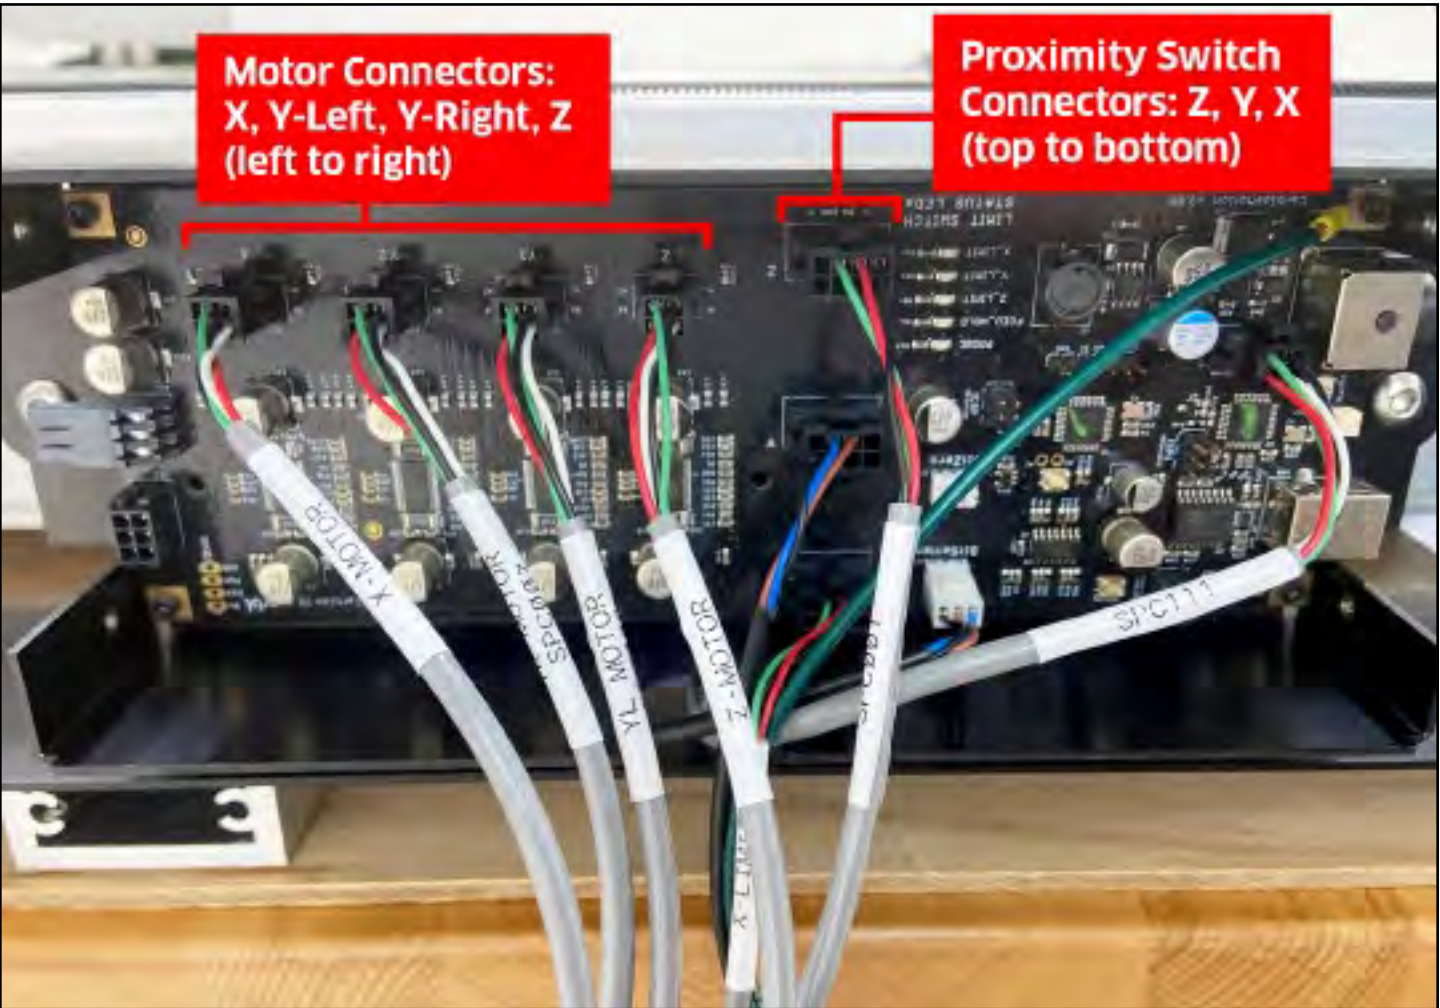

Figure 9-3
- 4. Plug the three 8-pin male proximity switch cables into the 8-pin female connectors down the center of the controller labeled “Z”, “Y”, “X”. **See Fig. 9-3.**
- 5. Plug the four 4-pin male stepper motor cables into the 4-pin female connectors at the top-left labeled “X”, “Y2”, “Y1”, “Z”. **See Fig. 9-3.**